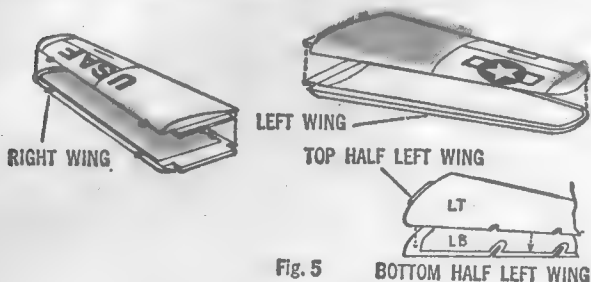

Fig. 5
In other kits you may find a letter code in place of numbers. For example, on airplane wings that are made of two halves, you may find the letters "LT" and "LB" embossed on their inner surfaces, as shown in Figure 5. Such letters indicate that the left top (LT) wing half should be cemented to the left bottom (LB) wing half.